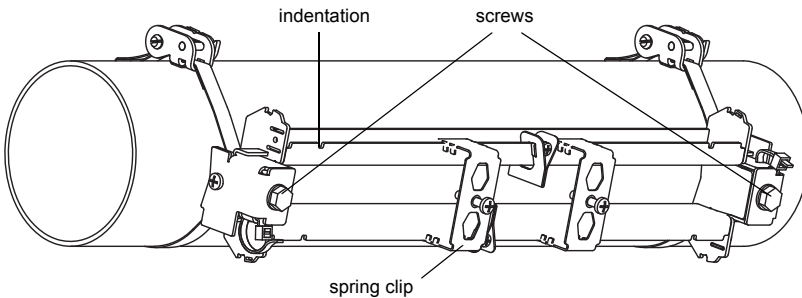

Fig. 7.33: Rail on the pipe
- Put the rail on the tension strap clamps (see Fig. 7.33).
The spring clip can be removed from the rail or put on the rail over the indentations (see Fig. 7.33).